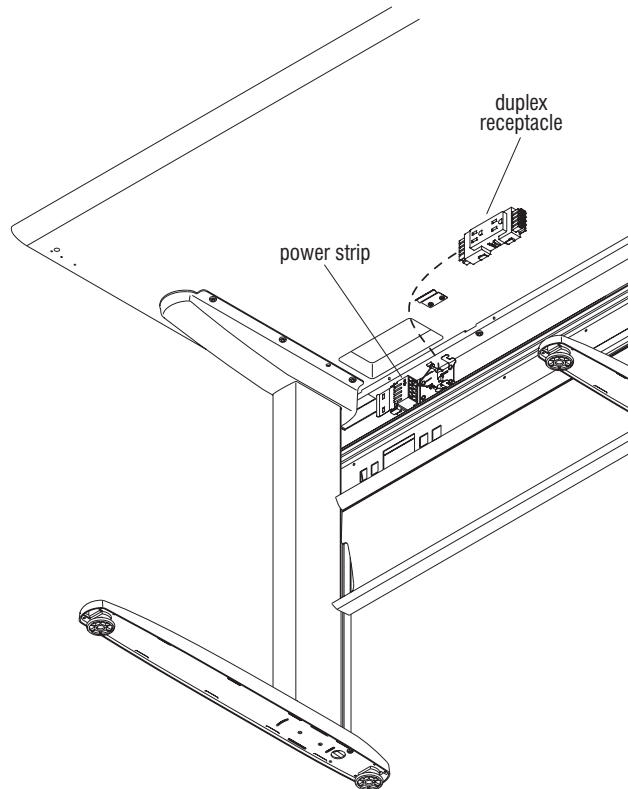

Figure 4
1. Plug duplex receptacle into power harness as illustrated. Secure receptacle to power harness by sliding into port until spring clips lock receptacle into place (Figure 4).